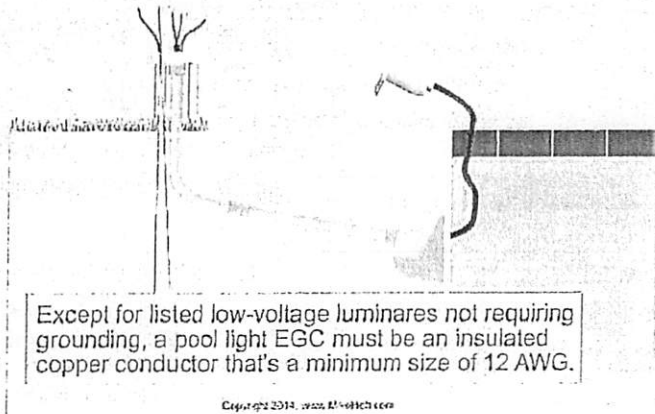

Figure 680-33
(2) Equipment Grounding Conductor. For other than listed low-voltage luminaires not requiring grounding, branch-circuit conductors for an underwater luminaire must contain an insulated copper equipment grounding conductor sized in accordance with Table 250.122, based on the rating of the overcurrent device, but not smaller than 12 AWG. Figure 680-33